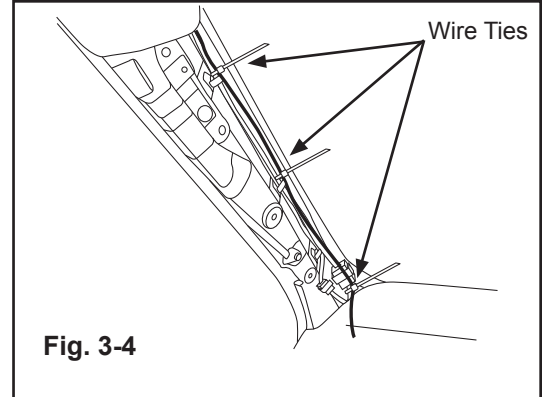

Fig. 3-4
- a) Route EC harness down A-pillar and begin to secure to the top of the OE harness with (3) wire ties, as shown. (Fig. 3-4)